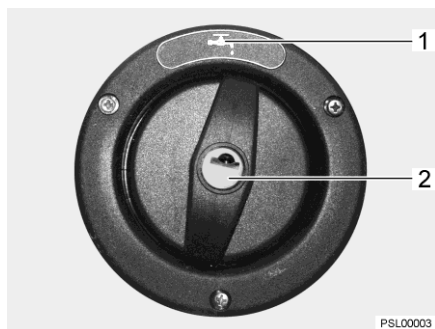

Fig. 92 Cap for the drinking water filler neck
The drinking water filler neck is indicated by the symbol "☞" (Fig. 92,1). The cap is opened and closed using the key for the external flap locks.
- Insert key into locking cylinder (Fig. 92,2) and turn a quarter turn in an anticlockwise direction.
- Open drinking water filler neck (Fig. 92).